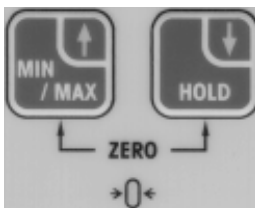

Figure 1.
3. Press MIN/MAX and HOLD keys at the same time. (See figure 1)	Top line of display reads “ZERO IN PROGRESS” while bottom line counts down from 9. Zeroing is complete when unit returns to Measure Mode .